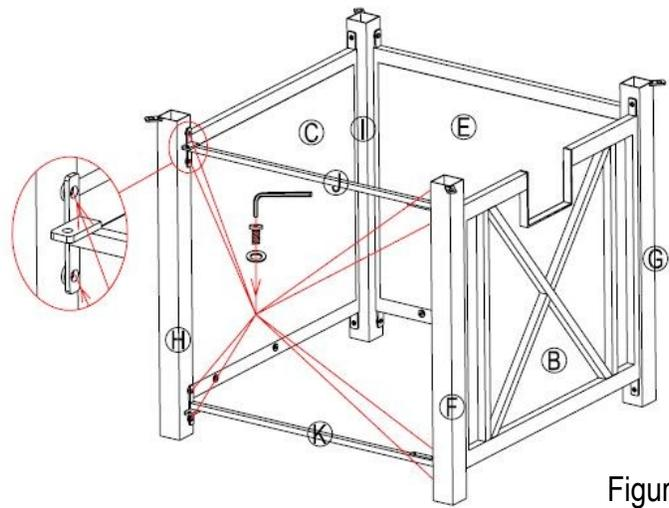

Figure 4
4. Attach the Upper Beam (J) to the Front-Left Leg (H) and the Front-Right leg (F) with Bolt (AA) and Washer (BB) by using the Hex Screw Driver (CC). Attach the Bottom Beam (K) to the Front-Left Leg (H) and the Front-Right leg (F) with Bolt (AA) and Washer (BB) by using the Hex Screw Driver (CC), (see Figure 4).